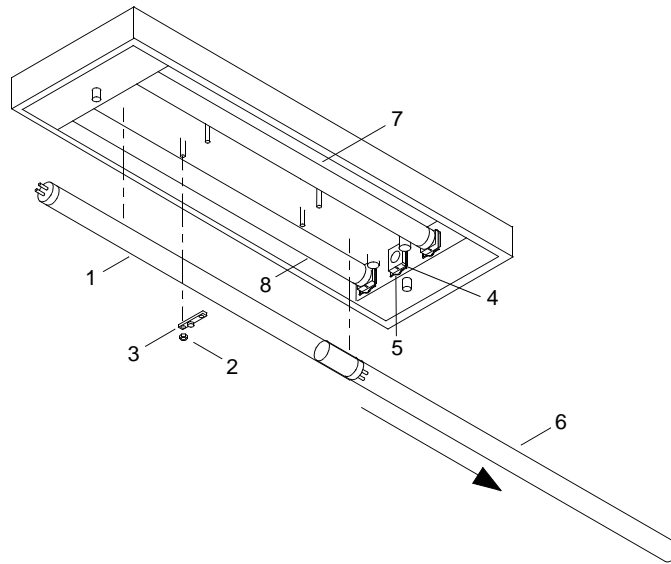

Figure 3. Fluorescent Light Bulb Removal/Installation
3. Remove middle light bulb (figure 3, item 1).
- a. Loosen screws (figure 3, item 2) from brackets (figure 3, item 3) on middle light bulb (figure 3, item 1).
- b. Remove brackets (figure 3, item 3).
- c. Disengage light bulb lock (figure 3, item 4) from each end of middle light bulb (figure 3, item 1) that requires replacement.
- d. Grasp middle light bulb (figure 3, item 1) and turn 90° clockwise.
- e. Pull down on middle light bulb (figure 3, item 1) and remove from receptacle (figure 3, item 5).
4. Remove sleeve (figure 3, item 6) from middle light bulb (figure 3, item 1).
5. Remove outer light bulbs (figure 3, items 7, 8).
- a. Disengage outer light bulb lock (figure 3, item 4) from each end of outer light bulb (figure 3, items 7, 8) that requires replacement.
- b. Grasp outer light bulb (figure 3, items 7, 8) and turn outer light bulb 90° clockwise.
- c. Pull down on outer light bulb (figure 3, items 7, 8) and remove from receptacle (figure 3, item 5).
1. Install middle light bulb (figure 3, item 1).
- a. Slide sleeve (figure 3, item 6) onto middle light bulb (figure 3, item 1).
- b. Position middle light bulb (figure 3, item 6) near receptacle (figure 3, item 5).
- c. Slide end of middle light bulb (figure 3, item 6) into receptacle (figure 3, item 5).
- d. Turn middle light bulb (figure 3, item 6) 90° until it clicks into place.
2. Install brackets (figure 3, item 3) and screws (figure 3, item 2) over middle light bulb (figure 3, item 6).
3. Install outer light bulbs (figure 3, items 7, 8).
- a. Position outer light bulb (figure 3, items 7, 8) near receptacle (figure 3, item 5).
- b. Slide end of outer light bulb (figure 3, items 7, 8) into receptacle (figure 3, item 5).
- c. Turn outer light bulb (figure 3, items 7, 8) 90° until they click into place.